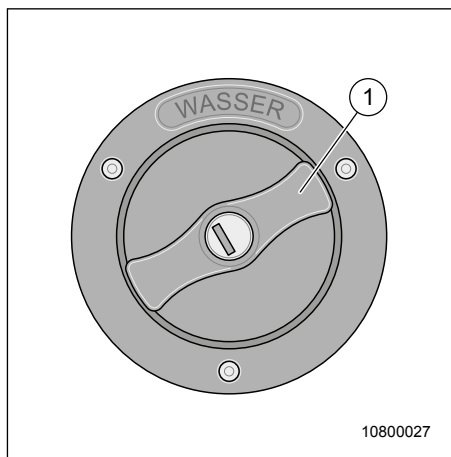

Fig. 57 Water filler neck
The water tank is located on the right side of your Malibu box-type van. The water filler neck (Fig. 57, Pos. 1) is marked by the lettering "Water". The sealing caps can be opened and locked using the vehicle key.
1. Insert the key in the lock cylinder (Fig. 57, Pos. 1) and turn a quarter turn counter-clockwise. Remove the key.
2. Insert the key in the lock cylinder (Fig. 57, Pos. 1) and turn a quarter turn clockwise.
7. Close the water filler neck (Fig. 57).